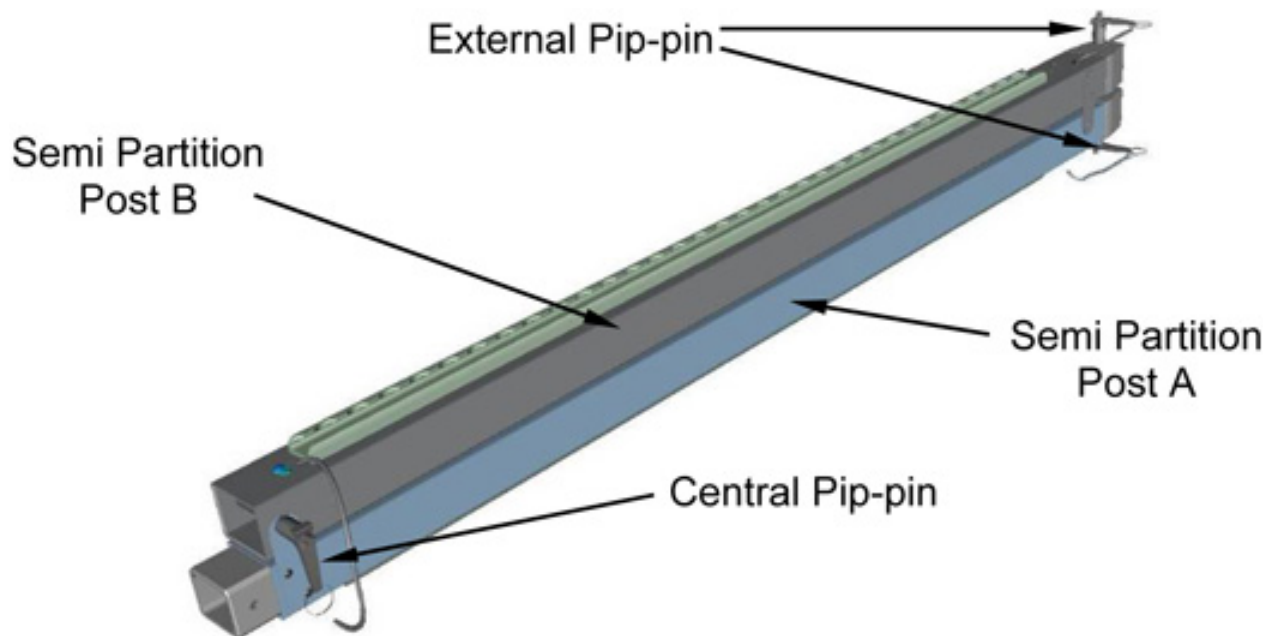

Figure 4. Folded Partition Post
1. Each Partition Post has to be unfolded before installation. If Partition Post are already unfolded steps 2.3 and 2.4 are not necessary. Refer to Figure 4.
- 2.3 Unfold the Partition Post by removing the Central Pip-pin. Refer to Figure 4.
Refer to Figure 4.